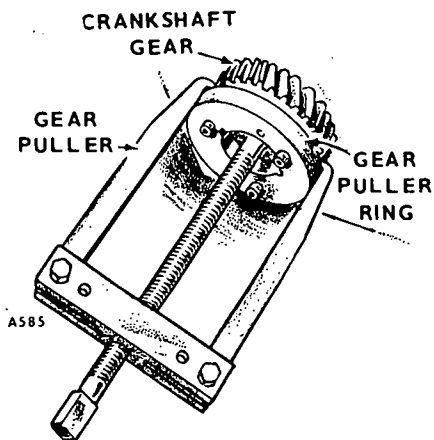

FIGURE 57. REMOVING CRANKSHAFT GEAR
2. Pull off the crankshaft gear. It has two, 1/4-20 UNC tapped holes for attaching a gear pulling ring. Use care not to damage teeth if the gear is to be reused. See Figure 57.